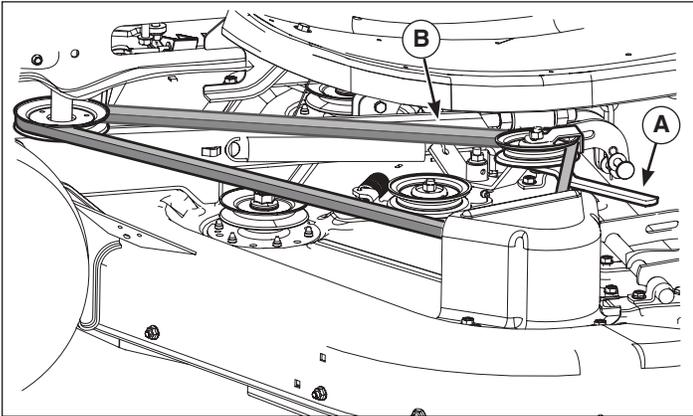

Figure 16
9. Move idler arm (**A**, Figure 16) to remove belt tension. Remove belt (**B**) from the PTO pulley.
9. Move idler arm (**A**, Figure 16) to remove belt tension. Install belt (**B**) onto the PTO pulley.
4. Move idler arm (**A**, Figure 16) to remove belt tension. Remove belt from the PTO pulley (**B**).